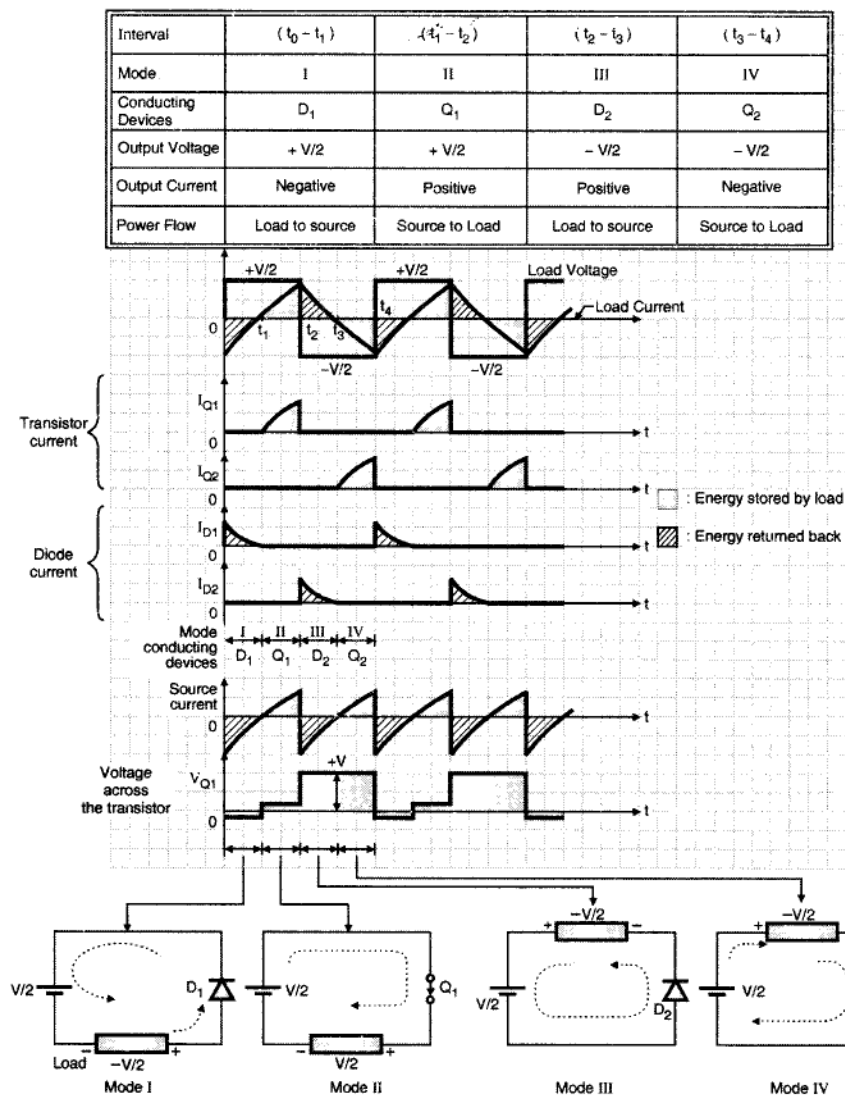

Fig. 3.9: Voltage and current waveforms for a half bridge inverter with RL load
- Let us divide the operation into four intervals. We start explanation from the second time interval t_1 to t_2 because at the beginning of this interval IGBT Q_1 will start conducting. Refer Fig. 3.9 for better understanding.
The voltage and current waveforms for RL load are as shown in Fig.3.9.